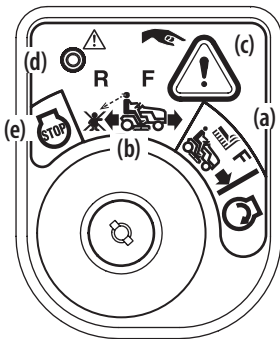

Figure 26
2. Turn the ignition key from the NORMAL MOWING (a) position to the REVERSE CAUTION MODE (b) position of the ignition switch. See Figure 26.
3. Press and hold the REVERSE CAUTION MODE BUTTON (c) at the top, right corner of the ignition module for 3 seconds. The red indicator light (d) at the top, left corner of the ignition module will be ON while activated. See Figure 26.
4. Once activated (indicator light ON), the tractor can be driven in reverse with the PTO (Blade Engage) Lever in the engaged (ON) position.
5. Always look down and behind before and while backing up slowly to make sure no children are around. After resuming forward motion, return key to the NORMAL MOWING (a) position to return to normal mowing operation. See Figure 26.
- The key is placed in either the NORMAL MOWING (a) position or STOP (e) position. See Figure 26.